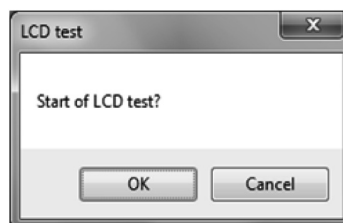

Fig.116
- ③ Click the "OK" button to display a message box (Fig. 116).